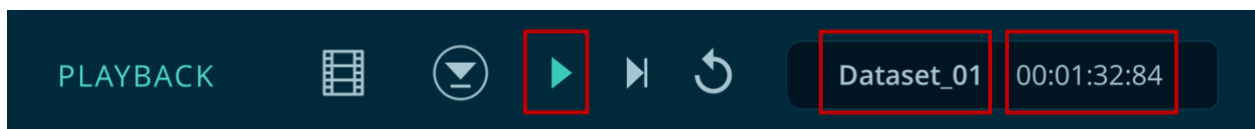

Figure 96. Top Navigation Bar: During Pause in Playback Mode
5. Optionally, click to Pause the recording. See Figure 96. Top Navigation Bar: During Pause in Playback Mode.